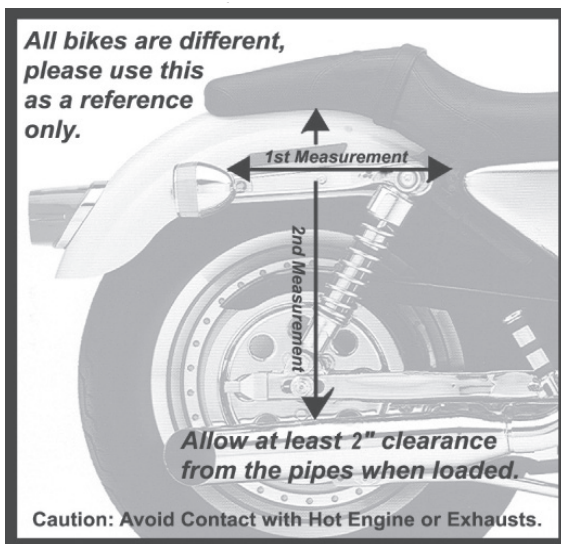

Figure 1
1. Measure side to side, from the back of the saddle, (riders position) to the arm of the directional signal, and compare the width measurements of the desired Willie & Max saddlebag. This measurement should be greater than the bag width. *Use figure 1 below for reference.*